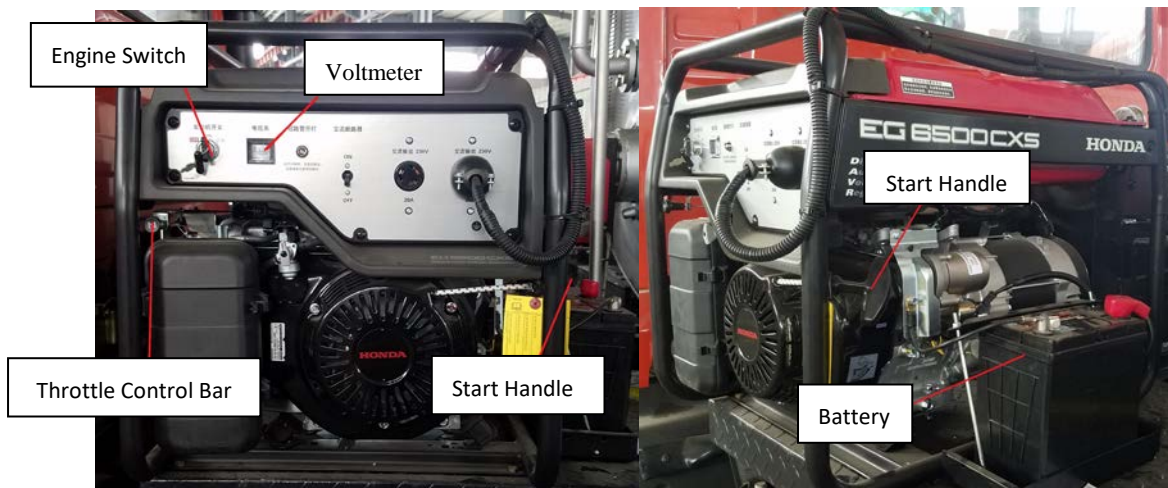

Fig. 19 Generator Set Diagram
- (1) Park the asphalt sprinkler truck on the flat ground, and confirm that the amount of asphalt in the asphalt tank reaches above the warning line, and open the cover of the front chimney of the tank body.
- (2) Start the generator, as shown in **Figure 19**
- ① Turn the engine switch to "ON";
- ② Open the generator throttle to the maximum;
- ③ Pull the start handle outward until the generator starts;
- ④ Adjust the throttle size so that after the engine runs smoothly, check the voltmeter reading until the voltmeter reading is $\geq 220V$.